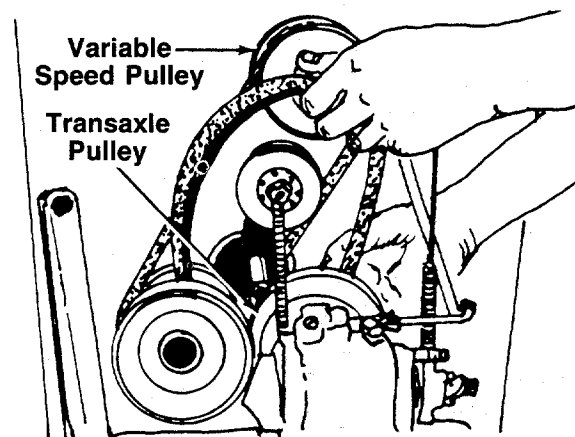

FIGURE 34.
6. Slip the "V"-belt off the variable speed pulley and transaxle pulley. See figure 34.